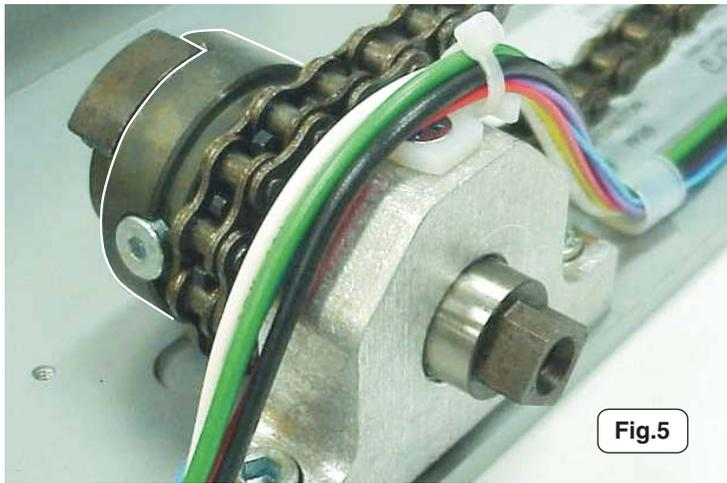

Fig.5
6. The proper orientation of the clutch mechanism is shown in fig.5 and fig.7.